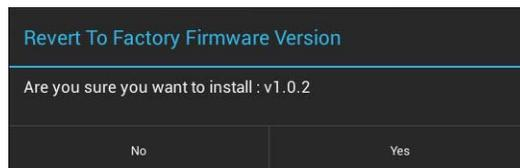

FIG. 25 Revert to Factory Firmware Version window
3. A *Revert to Factory Firmware Version* window appears, asking “Are you sure you want to install?”, with the version “Factory Firmware” listed below (FIG. 25).